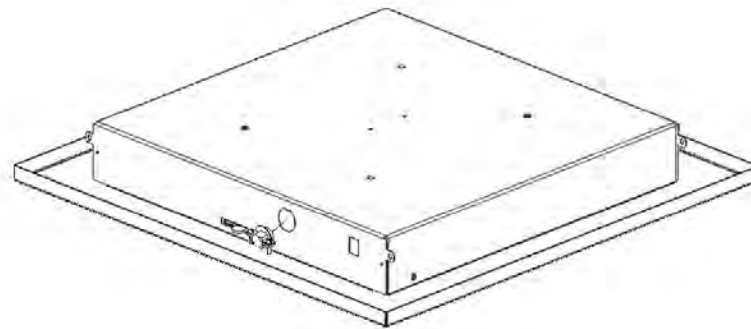

Figure 1
Step 1 – Place the *ceiling enclosure assembly* on the work surface with the keyed doorway unlocked. The *eye tabs* located on each corner will be used to secure the enclosure with grid wires (Ref. *Figure 1*). Depending on the installation, the grid wire can be attached now, or you can wait until it has been installed in the ceiling to attach the grid wires